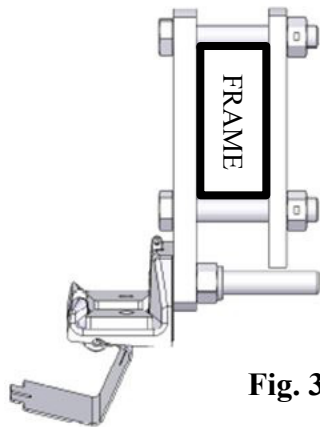

Fig. 3
- Slide frame bracket assembly over the trailer frame. Frame brackets have multiple mounting holes for various frame heights. Insert the second 5/8" bolt through the highest hole not obstructed by the bottom of the frame. Install 5/8" lock nuts (S) and hand tighten (See Fig. 3) .